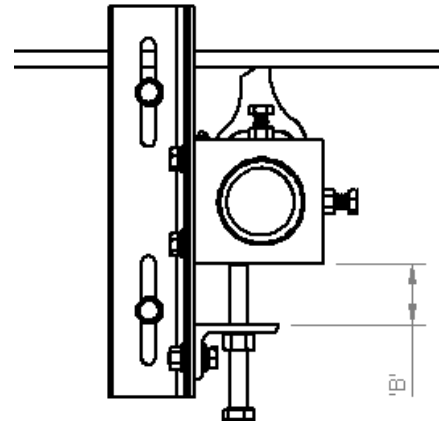

Fig 15
- 12- Once blade makes contact to belt, increase dimensions 'B' refer to fig 15 by 4 – 6mm to set blade tension. Tighten all locking nuts, refer to fig (fig 15)